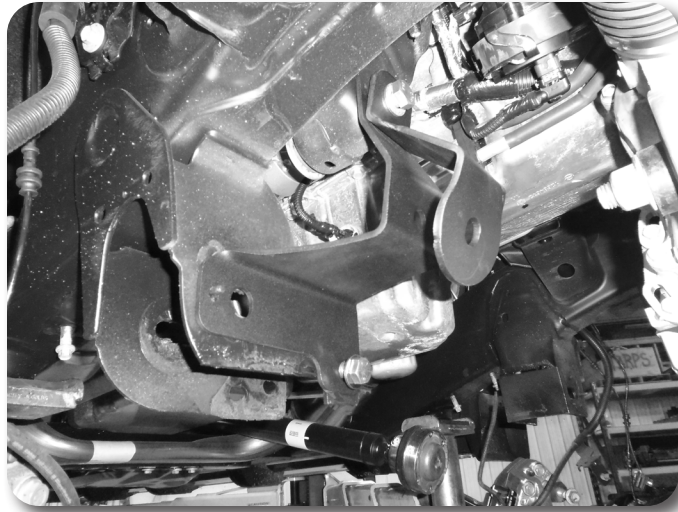

Figure 27
39. Install the new passenger's side differential bracket and brace to the original mounting location with the new 14mm bolt, 14mm washer, and factory nut Fig. 27. Snug up hardware, but do not tighten. The differential brace will mount to the alignment pin and into the slot from the factory rear cross member.